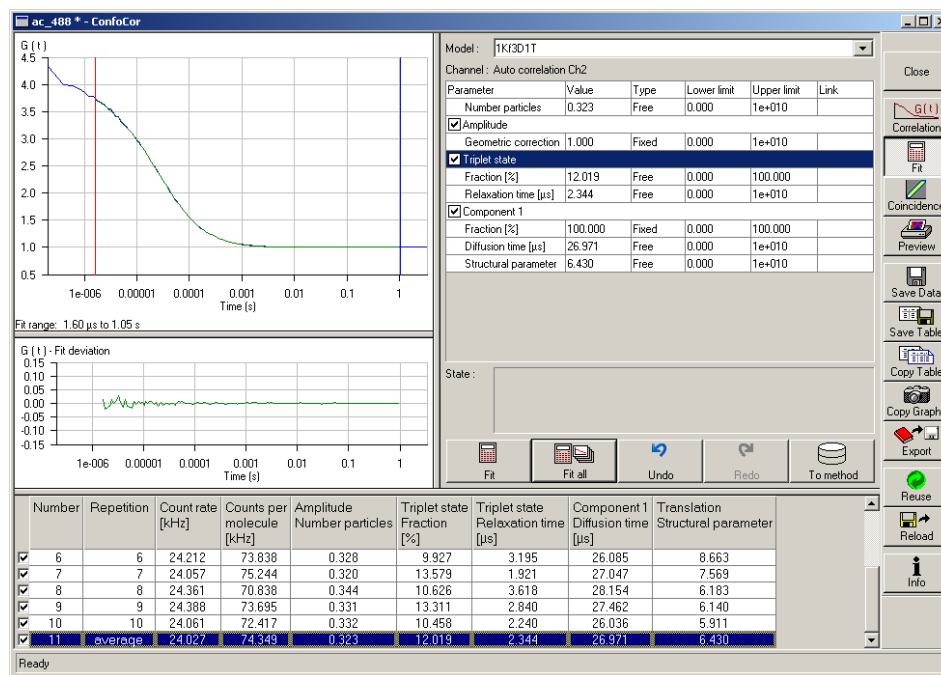

Fig. 4-116 Display fit
- A **Fit** menu subordinate will appear (Fig. 4-116).